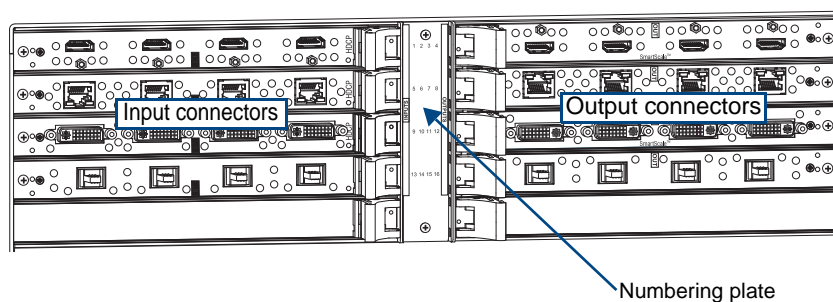

FIG. 15 Enova DGX 16 - Numbering indicates input and output channels
- Enova DGX 16 – Enclosures have 8 horizontal board slots (4 slots each for the input and the output boards, with 4 connectors per board), allowing for a maximum configuration of 16x16 (FIG. 15).